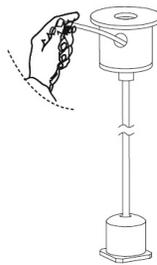

Fig. 8
2. Adjust the length of the hanging cable (Fig. 8).